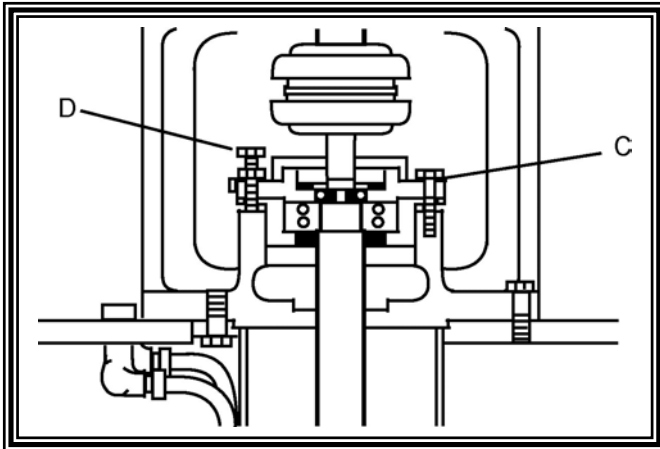

FIGURE 2.
- b) Loosen adjustment bolts and jam nuts (D) in Figure 2.
- c) Tighten shell bolts (C) in Figure 2., while rotating the shaft until the impeller lightly contacts the suction cover.